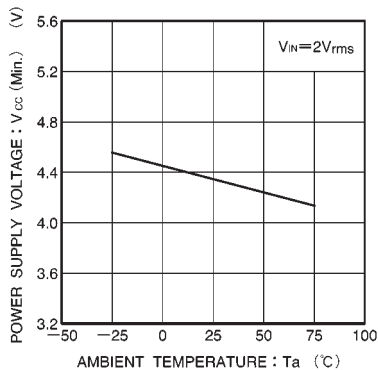

Fig. 6 16th point lighting limit power supply voltage vs. ambient temperature
2) The temperature characteristic for the lighting limit for the 16th LED is shown in Fig. 6.